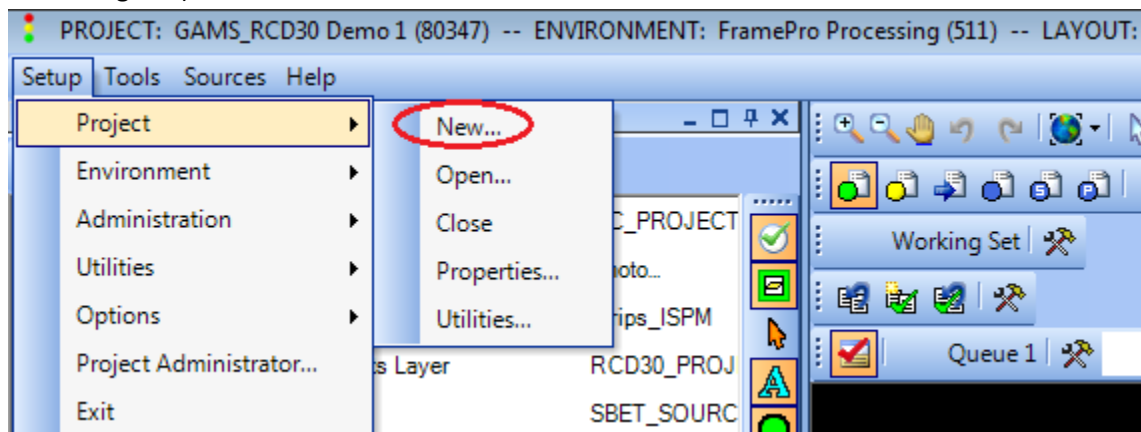

Fig. 1.2
- 1.1. Inside the GeoCue environment, under the *Setup* menu, select *Project -> New...* (Refer Fig. 1.2)